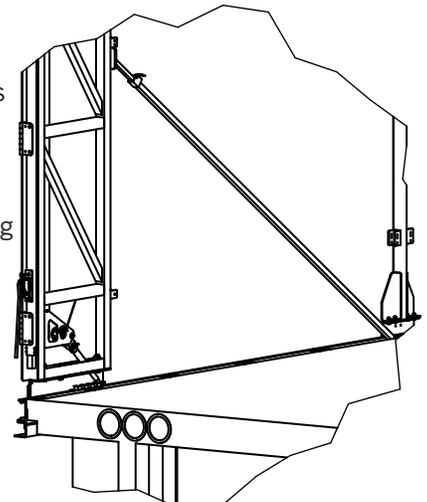

Figure 41
1) See **Figure 41**. Determine rack placement by first locking the front bow to the bulkhead and stretching the cover to the rear of the trailer. Use jacks to force the rear bow back to stretch the tarps tight. DO NOT use the I-bow make sure the bottom of the jack is against the trailer. Do this for both sides of the rear bow.